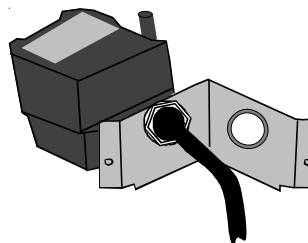

**Figure 4**
- Using the overflow tube holder and the overflow tube, hold the tube with the metal holder and screw the holder to the partition panel with the provided 1/2 inch #8 screw (Figures 4 & 5).